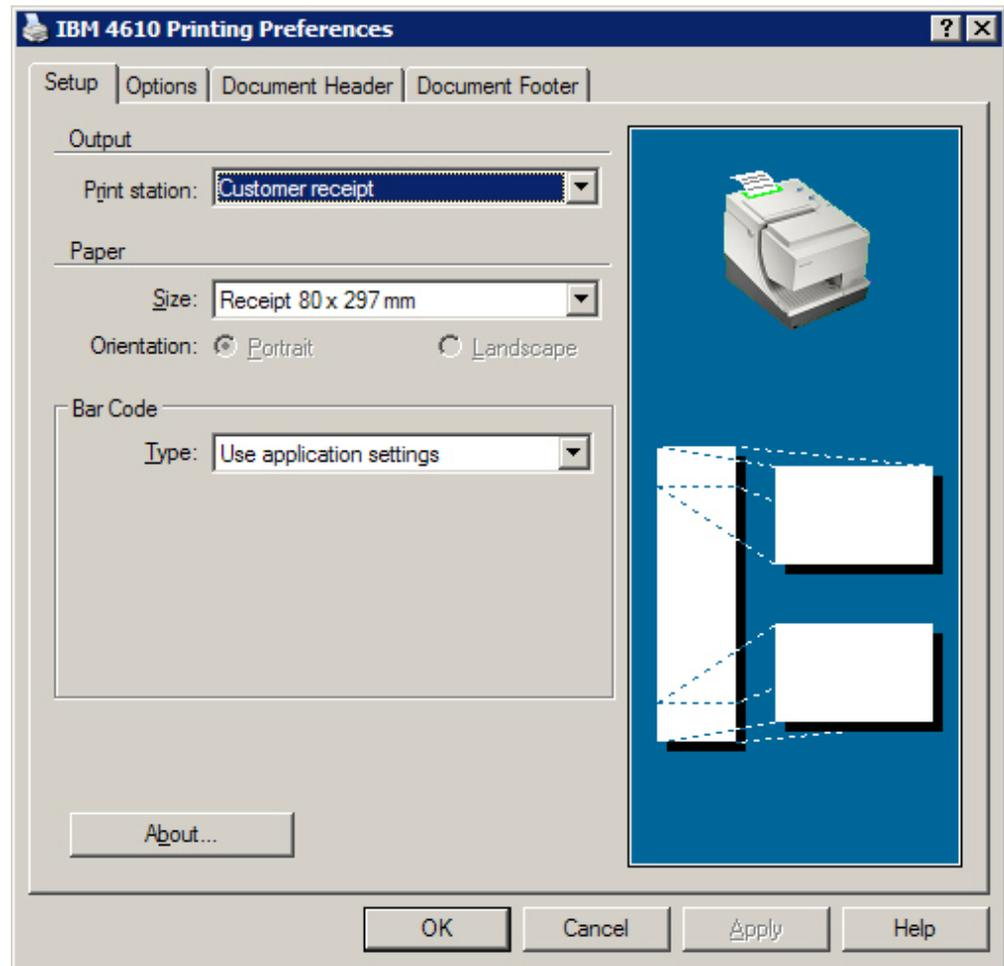

Figure 15. IBM 4610 Printing Preferences
3. Click **Printing Preferences**. The IBM 4610 Printing Preferences window opens with the Setup page selected (see Figure 15).